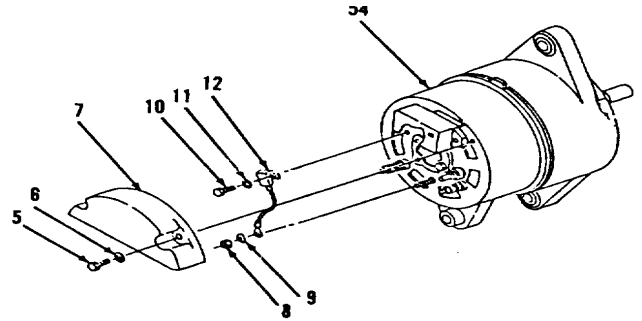
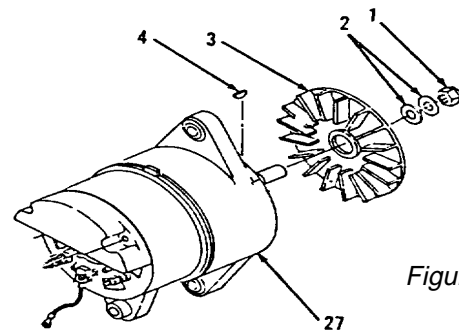

Figure 4-20.
Figure 4-19.
30. Install capacitor (12), lock-washer (11) and screw (10) on rear of frame (54, Figure 4-20).
31. Install capacitor (12) wire assembly, lockwasher (9) and nut (8) on terminal stud marked "D+".
32. Install cover (7), two washers (6) and screws (5).
33. Install key (4), fan (3), two washers (2) and nut (1) on inner frame (27, Figure 4-19).